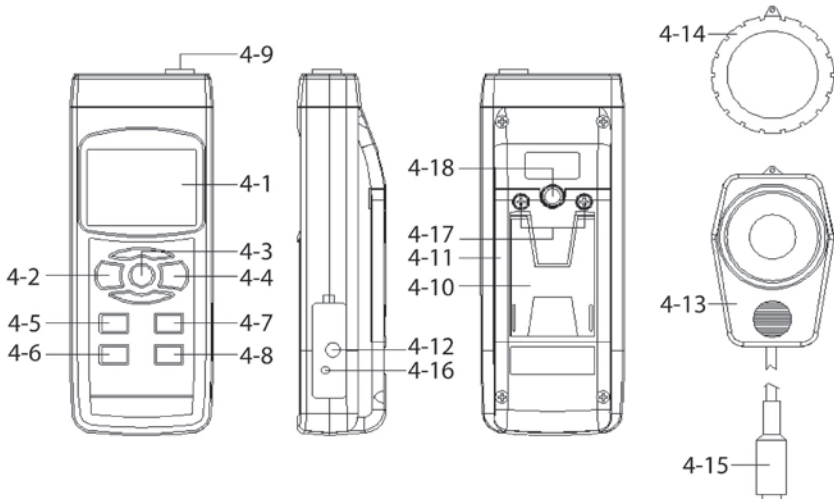

Fig. 1
1. Push the "Power Button" (4-2, Fig. 1) to power on the instrument. The meter will perform a short self-test before measurements can be taken.
2. Select the desired unit of measurement by pressing the "Lux/Fc Button" (4-5, Fig. 1). The display will indicate the selected unit of "Lux" or "Ft-cd".
3. Determine the lighting type (Tungsten, Fluorescent, Sodium or Mercury lamp) by pressing the "Light Source Select Button" (4-8, Fig. 1). For unknown light types we recommend you use Tungsten
4. Select the max range by using the "Range Button" (4-6, Fig. 1)
5. Position the "Light Sensor" (4-13, Fig. 1) directly under the light source.
- a. Cover the "Light Sensor" (4-13, Fig. 1) using the "Sensor Cover" (4-14, Fig. 1). **Do not** remove the "Sensor Cover".
- c. Pushing the "Zero Button" (4-7, Fig. 1) will zero out the LCD display.
- a. During measurements, press the "Hold Button" (4-3, Fig. 1). The data on the LCD display will be held and the "HOLD" symbol will be displayed.
- a. During a measurement press and hold the "Hold Button" (4-3, Fig. 1) for at least 3 seconds. The mete will now only display and hold the largest measured value along with the "Peak HOLD" indicator.
- b. To clear the peak value momentarily press the "Hold Button" (4-3, Fig. 1).
- c. To turn off the Peak Hold function, press and hold the "Hold Button" (4-3, Fig. 1) for at least 3 seconds.
- a. The data record function records the maximum and minimum readings. Press the "REC Button" (4-4, Fig. 1) to start the data record function.
- b. With the "REC" symbol on the display momentarily pressing the "REC Button" (4-4, Fig. 1) will toggle between Max and Min recording.
- c. To exit the memory record function, press and hold the "REC Button" (4-4, Fig. 1) for at least 3 seconds.
- d. Note: To delete the displayed value while recording, just press the "Hold Button" (4-3, Fig. 1) until the display clears the data leaving the "REC" symbol.
To disable this function, select the memory record function during a measurement by pressing the " REC. Button" (4-4, Fig. 1).
This instrument has RS232 PC serial interface via a 3.5 mm terminal (4-12, Fig. 1).
2. Open the “Battery Compartment” (4-11, Fig. 1) by first loosening the “Battery Cover Screws” (4-17, Fig. 1).
3. Replace the batteries with “good” batteries noting the correct polarity. Replace “Battery Compartment” (4-11, Fig. 1) and “Battery Cover Screws” (4-17, Fig. 1). Ensure the cover is securely fastened.